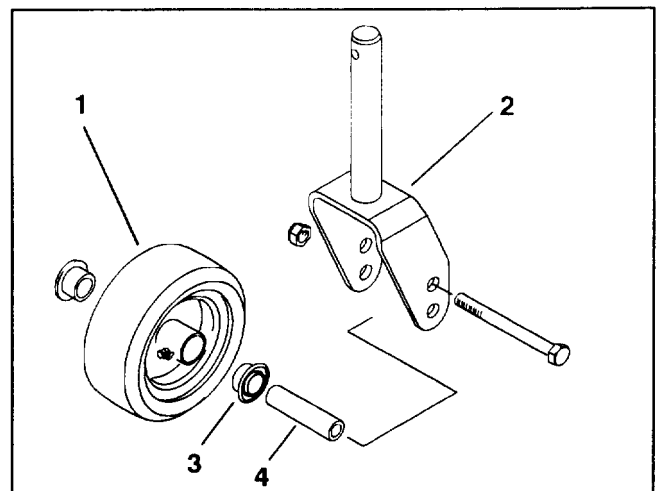
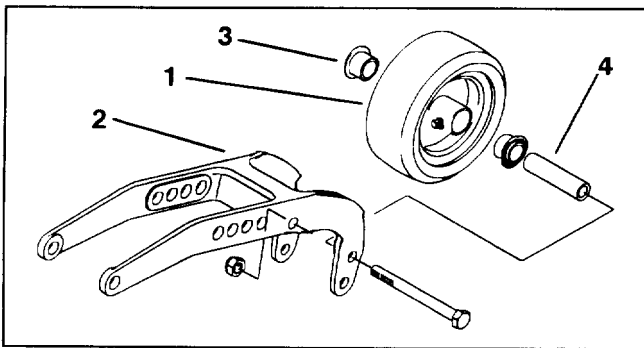

Figure 71
Figure 72
SERVICING CASTOR WHEELS AND BEARINGS (Fig. 71–72)
1. Remove locknut from capscrew holding castor wheel assembly between front castor fork (Fig. 71), or rear castor pivot arm (Fig. 72). Grasp castor wheel and slide capscrew out of fork or pivot arm.